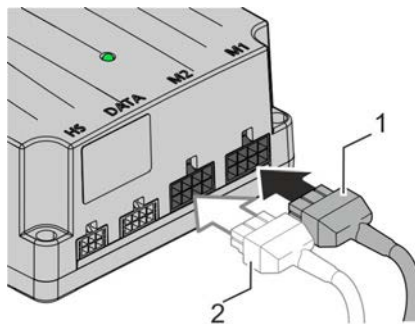

Figure 19 - Connecting the drives
1. Connect the cable of the first drive (Figure 19/1) to drive slot M1.
2. If applicable, connect the cable of the second drive (Figure 19/2) to drive slot M2.